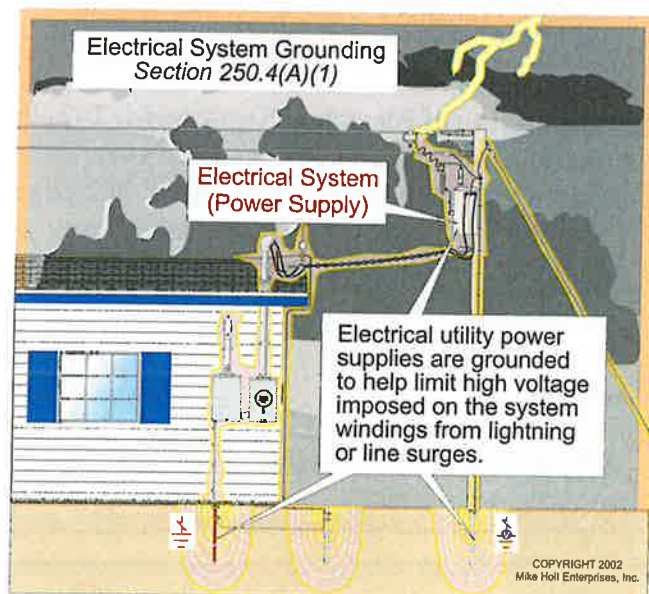

Figure 250-20
- (1) **Grounding of Electrical Systems.** Electrical power supplies such as the utility transformer shall be grounded to earth to help limit high voltage imposed on the system windings from lightning or line surges. **Figure 250-20**